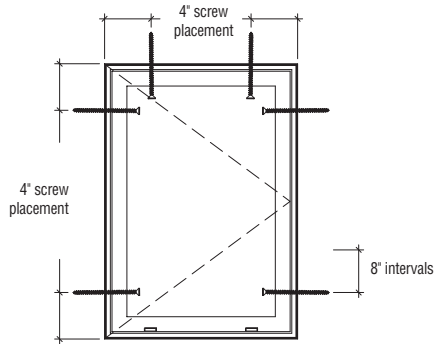

fig. 11
- Place four screws within 4" of each corner on the jamb sides and then space the screws approximately 8" to 12" apart on the remainder of the jamb. Quantity of screws are determined by the size of the window. For the head use two screws 4" from each corner. (**fig. 11**)